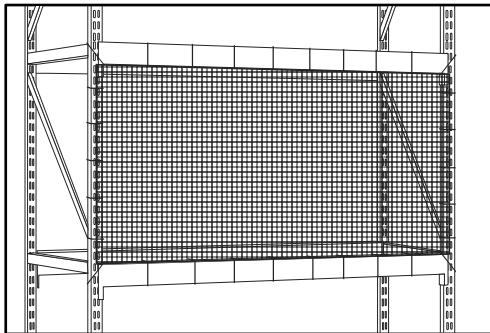

Figure 3
3. Secure the rest of the pallet rack netting with a cable tie every 12" on each side. (See Figure 3)